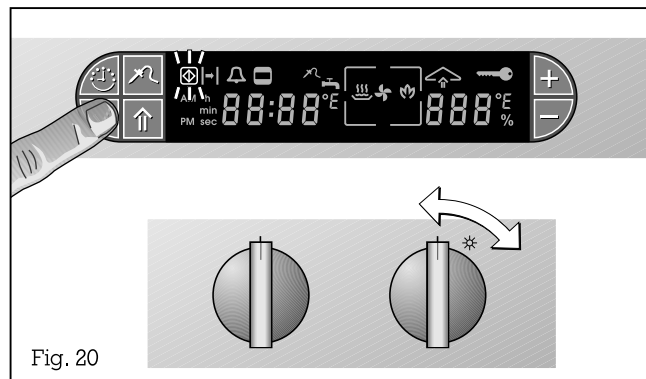

Fig. 20
- Turn the “Temperature” control knob to the 0 position (Fig. 20).